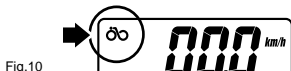

Fig.10
2. Cycling Mode (Bicycle Symbol: on) (Fig. 10)